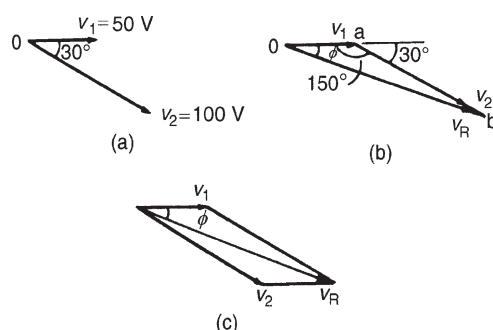

Figure 14.11
Phasors are usually drawn at the instant when time $t = 0$. Thus v_1 is drawn horizontally 50 units long and v_2 is drawn 100 units long lagging v_1 by $\pi/6$ rads, i.e. 30° . This is shown in Fig. 14.11(a) where 0 is the point of rotation of the phasors.
- Draw v_1 horizontal 50 units long, i.e. $0a$ of Fig. 14.11(b)
- Join v_2 to the end of v_1 at the appropriate angle, i.e. ab of Fig. 14.11(b)
Alternatively, when two phasors are being added the resultant is always the diagonal of the parallelogram, as shown in Fig. 14.11(c).
A more accurate solution is obtained by calculation, using the cosine and sine rules. Using the cosine rule on triangle $0ab$ of Fig. 14.11(b) gives: